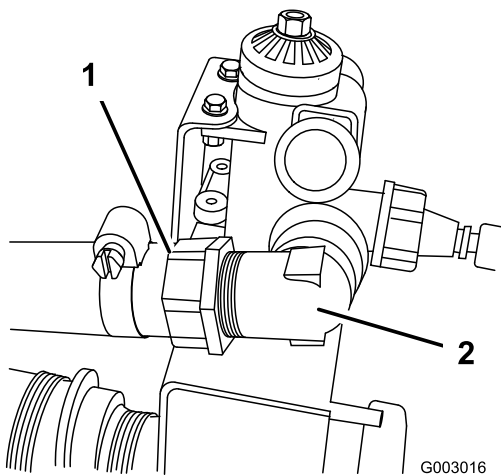

Figure 14
7. Insert the O-ring into the female threaded end of the long hose assembly and install it onto the fitting on the side of the control valve (Figure 14).
8. Connect the other end of the long hose assembly to the open fitting on the S53 tee that you installed into the by-pass hose (Figure 14) and secure it with a small retainer.